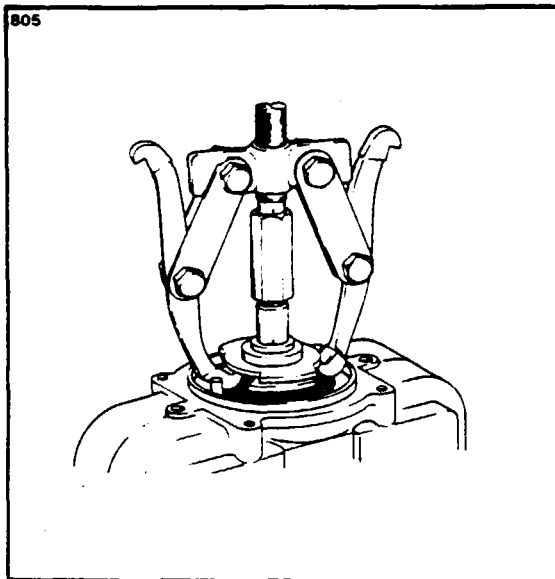

Figure 8-17. Removing Impulse Coupling
- c. Thread protective cap of 11-702-1 puller securely on end of shaft. Engage puller over protective cap and cam assembly with wide jaws of puller hooked under cam assembly as shown in Figure 8-17.